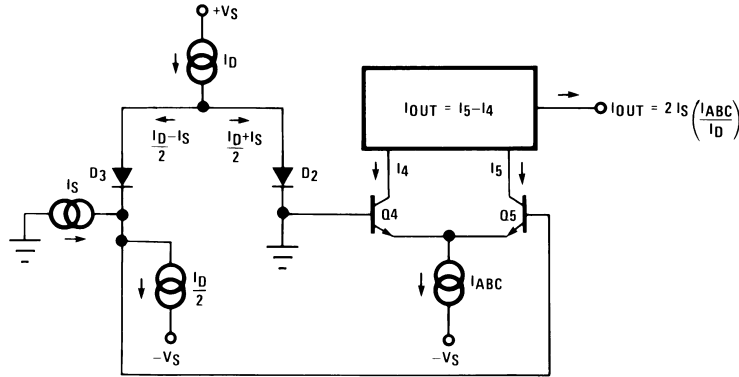
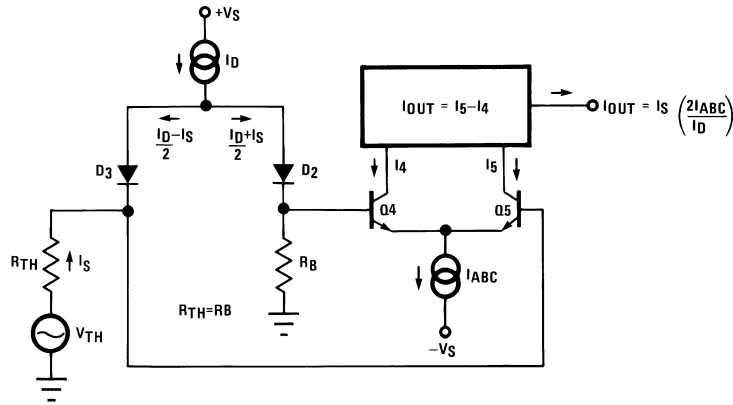
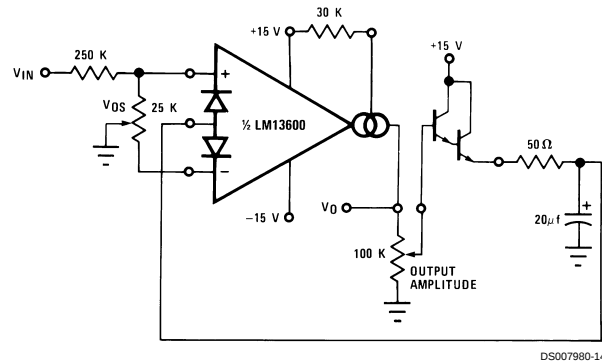

FIGURE 1. Linearizing Diodes
FIGURE 3. Equivalent VCA Input Circuit
FIGURE 7. AGC Amplifier
For differential voltages greater than a few millivolts, Equation (3) becomes less valid and the transconductance becomes increasingly nonlinear. Figure 1 demonstrates how the internal diodes can linearize the transfer function of the amplifier. For convenience assume the diodes are biased with current sources and the input signal is in the form of current I_S . Since the sum of I_4 and I_5 is I_{ABC} and the difference is I_{OUT} , currents I_4 and I_5 can be written as follows:
Figure 2 shows how the linearizing diodes can be used in a voltage-controlled amplifier. To understand the input biasing, it is best to consider the 13 k Ω resistor as a current source and use a Thevenin equivalent circuit as shown in Figure 3. This circuit is similar to Figure 1 and operates the same. The potentiometer in Figure 2 is adjusted to minimize the effects of the control signal at the output.
The constant term in the above equation may be cancelled by feeding $I_S \times I_D R_C / 2$ ($V^- + 1.4V$) into I_O . The circuit of Figure 6 adds R_M to provide this current, resulting in a four-quadrant multiplier where R_C is trimmed such that $V_O = 0V$ for $V_{IN2} = 0V$. R_M also serves as the load resistor for I_O . Noting that the gain of the LM13600 amplifier of Figure 3 may be controlled by varying the linearizing diode current I_D as well as by varying I_{ABC} , Figure 7 shows an AGC Amplifier using this approach. As V_O reaches a high enough amplitude ($3 V_{BE}$) to turn on the Darlington transistors and the linearizing diodes, the increase in I_D reduces the amplifier gain so as to hold V_O at that level.